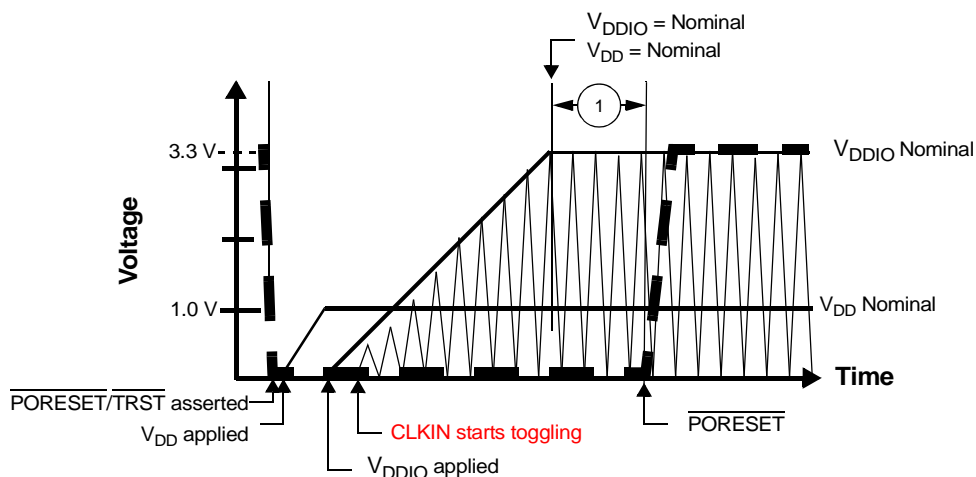

Figure 6. Start-Up Sequence with V_{DD} Raised Before V_{DDIO} with CLKIN Started with V_{DDIO}
- CLKIN should start toggling at least 32 cycles before the $\overline{\text{PORESET}}$ deassertion to guarantee correct device operation (see Figure 6). 32 cycles should be accounted only after V_{DDIO} reaches its nominal value.
Figure 6 shows a sequence in which V_{DDIO} is raised after V_{DD} and CLKIN begins to toggle with the raise of V_{DDIO} supply.